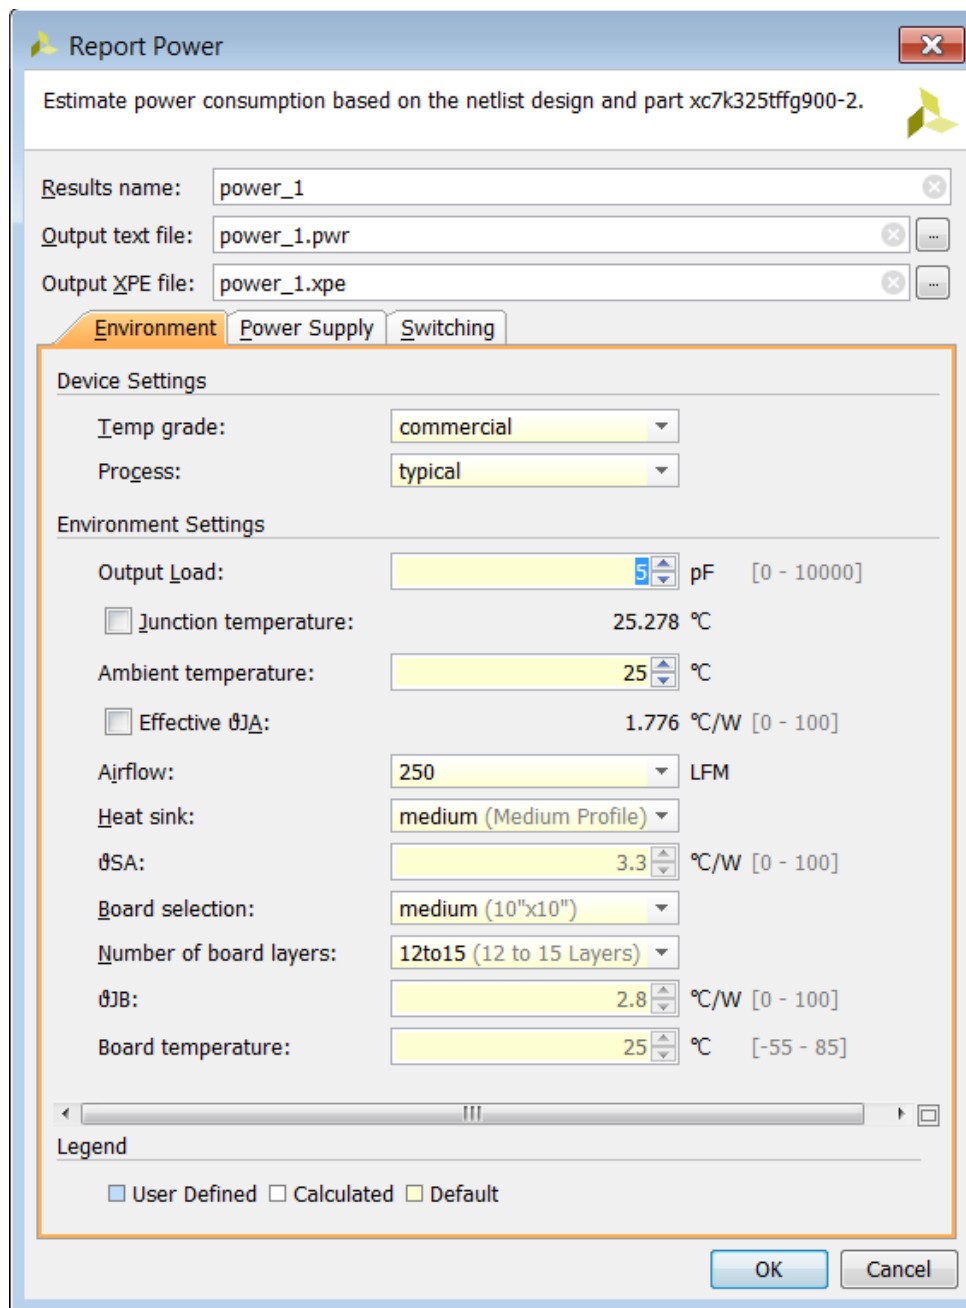

Figure 7: Report Power Dialog Box
4. Examine the **Environment** tab in the Report Power dialog box (Figure 7).